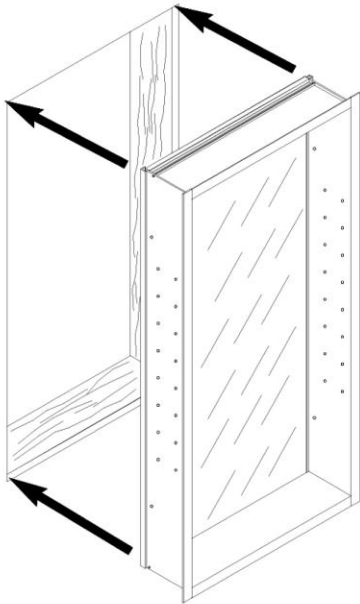
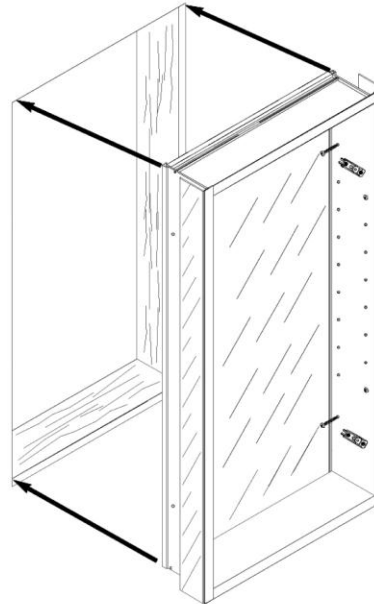

FIG 4
FIG 5
5. Make sure hinges are on correct side of opening for left hand or right hand operation. Place cabinet box into rough opening. On fully recessed applications, make sure cabinet flange covers rough opening evenly all around (Fig 4). On semi-recess applications, mirror edges should meet wall surface. (Fig 5). Shim as needed.